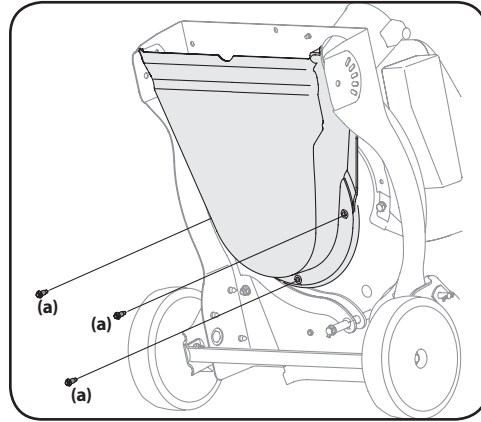

Figure 5-7
- Carefully tilt and support the unit up to provide access underneath to the nozzle mounting hardware and impeller. Remove the three shoulder bolts (a) securing the black plastic lower flail housing to the lower housing. Refer to Figure 5-7.